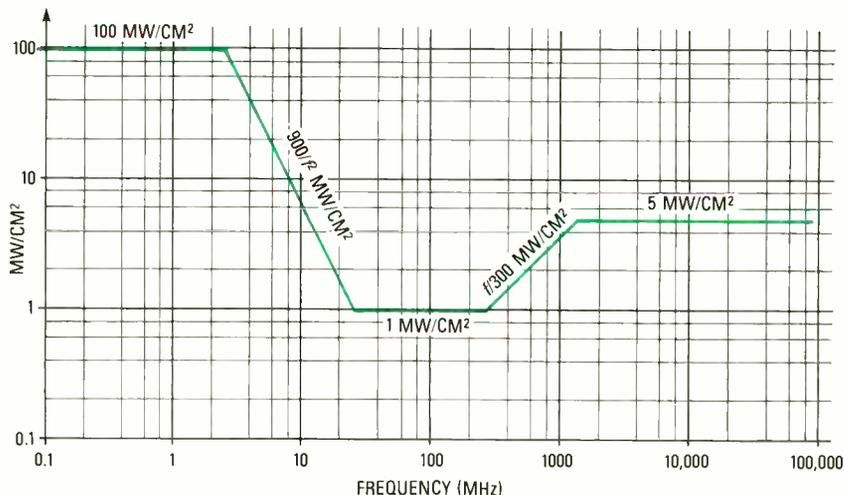

Fig. 1. The ANSI standard allows greater RF-exposure levels at lower frequencies and is for exposure times of six minutes or more.
**How much is too much?** At one time the standard for permissible exposure was 10 mW/cm2 for continuous periods of six minutes. In more recent times, the ANSI (American National Standards Institute) standard (see Fig. 1) has been adopted by many organizations. That standard takes note of the fact that VHF/UHF seems somewhat more dangerous than lower frequencies (probably due to resonance effects).